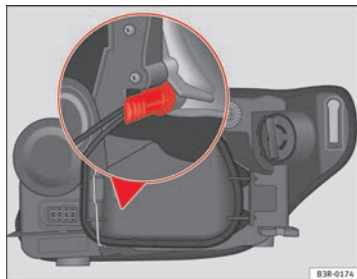

Fig. 199 Side lights. Bulb holder grip in vertical position
- Insert the bulb into the socket so that the side of the bulb holder grip is vertical $\Rightarrow$ fig. 199 and press on it.